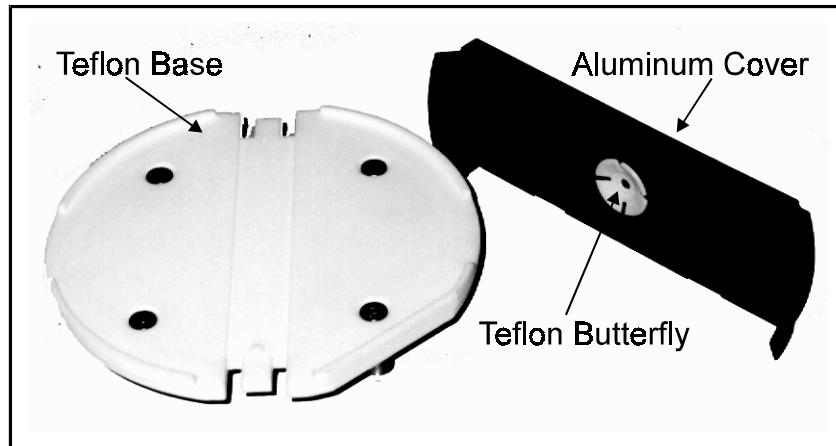

Figure 1 — 1 Manual CV—Tool
1.2.3 Semi-automatic CV—Tool (Fig. 1–2)